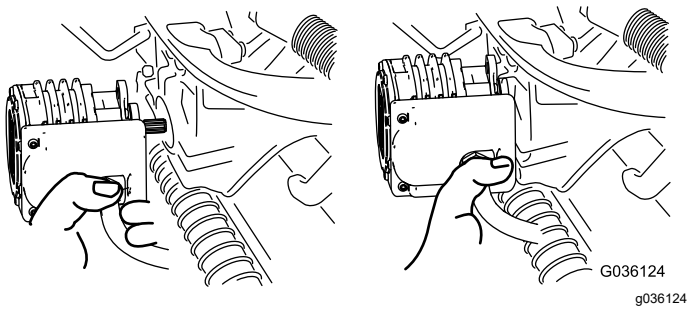

Figure 55
- Move the motor to the storage location on the front of the suspension arm (Figure 55).